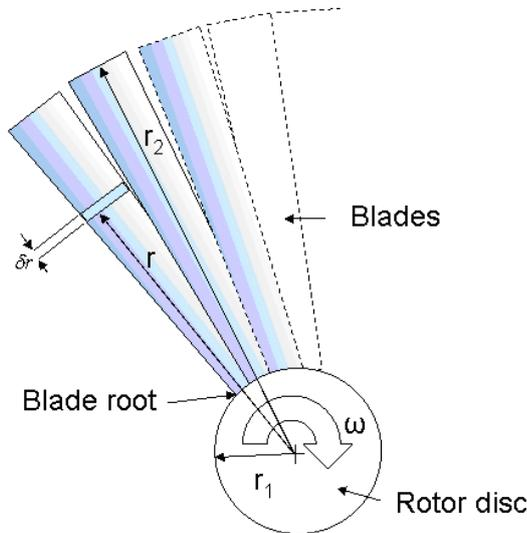

**Figure 2: Low Pressure steam turbine rotor**
With the knowledge that an understanding of the forces and stresses acting on the turbine blades is of vital importance, in this exemplar we will calculate such a force acting on a last stage Low Pressure (LP) blade and root of a large steam turbine rotating at 3000 rpm in order to estimate the material stresses at the blade root. One such LP steam turbine rotor is shown in Figure 2 below: